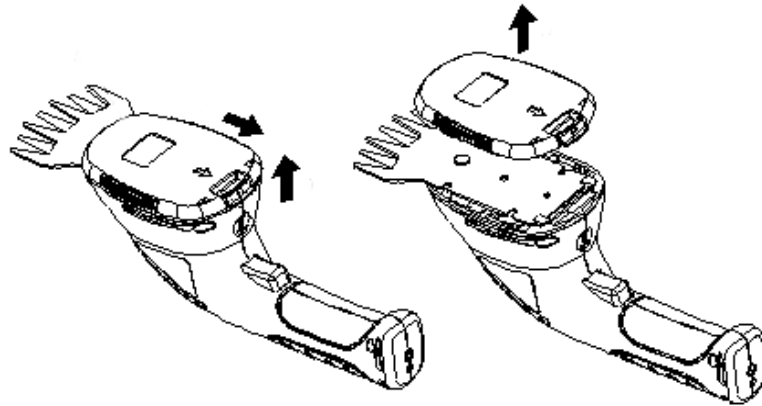

Figure 4
1. Hold the machine in one hand. Push the catch up to release the cover, figure 4.